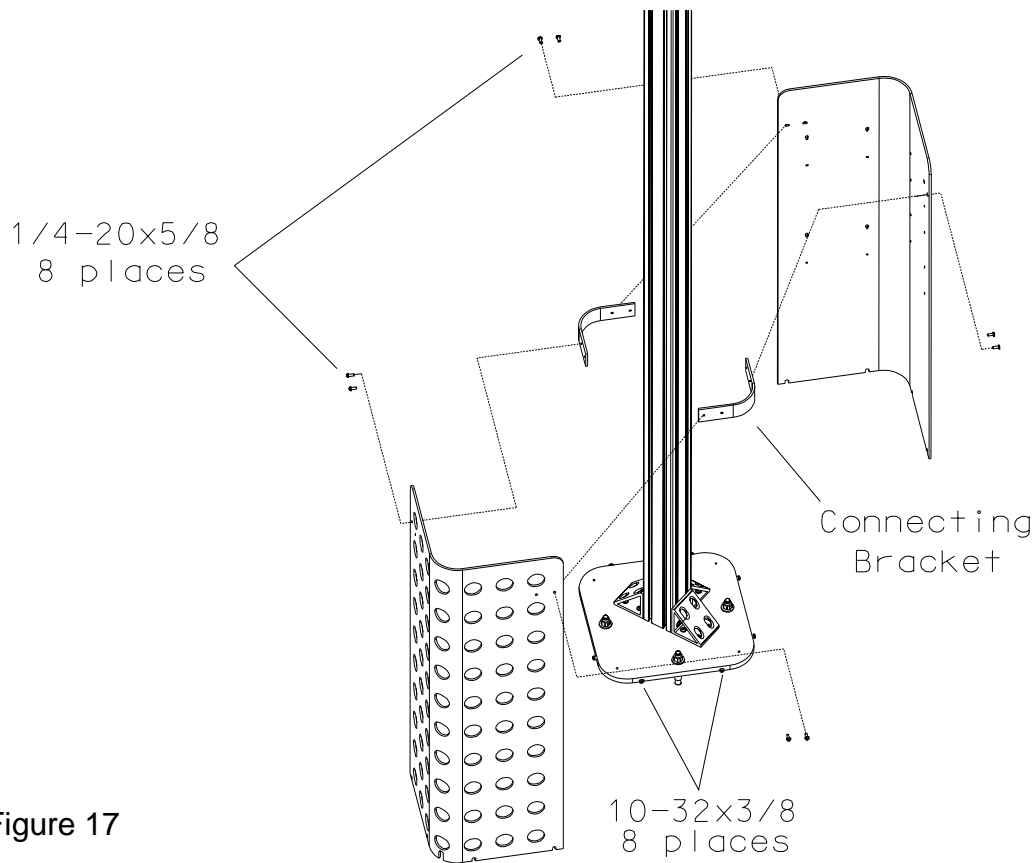

Figure 17
2. Connect support brackets to the shields. There are two support brackets for each set of base shields. Refer to Figure 17, next page, for detail.